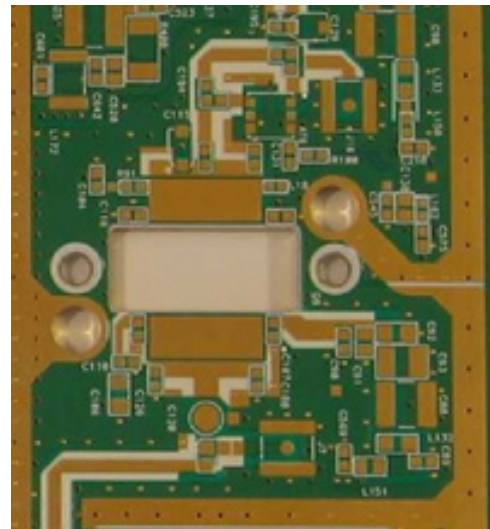

FIGURE 3: Solder Mask Border
- The recommended way for solder attachment is to screen print Sn63 solder onto the solder lands prior to installing the transistor in the well with a 0.015" thick stencil. It is also desirable to put a 0.05-0.010" wide strip of solder mask along the edge of the transistor well to prevent solder from falling into the well. Figure 3 shows the solder mask border around the solder pad for the transistor leads. The solder paste can be applied manually using a syringe if using a stencil is not an